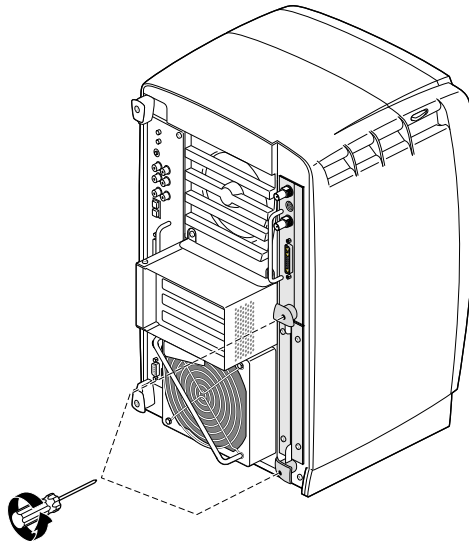

Figure 2-7 Loosening the XIO Tri-Module Screws
1. Loosen the two captive screws in the XIO Tri-Module sliding handles with the supplied Phillips screwdriver, as shown in Figure 2-7, until the screws are disconnected from the chassis.